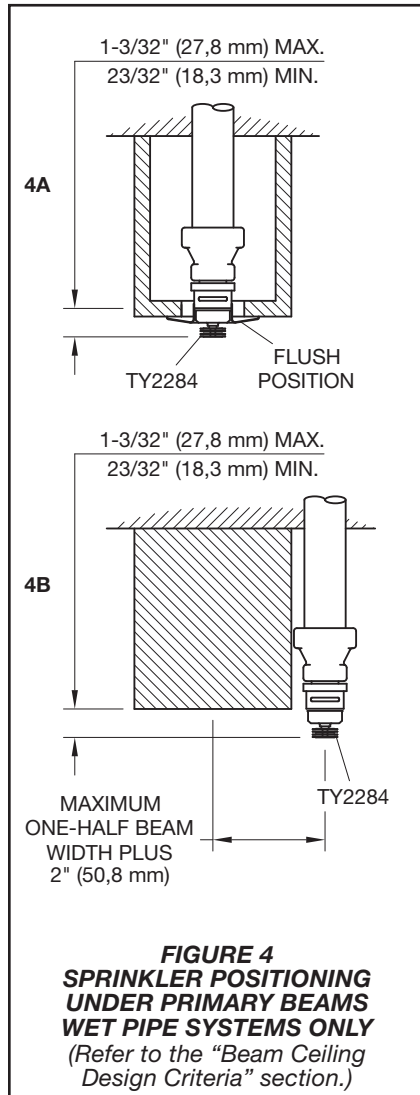

FIGURE 4
The basic concept of this protection scheme is to locate the sprinklers on the underside of the beams, refer to Figure 4, (not in the beam pockets); to identify the main beams that principally run in one direction as "primary beams"; and, to identify the beams that run principally perpendicular to the main beams, as may be present (or in some cases may be necessary for proper sprinkler protection), as "secondary beams".
- When properly installed, a nominal 3/32 inch (2,4 mm) air gap exists between the lip of the Cover and the ceiling, as shown in Figure 4. This air gap is necessary for proper sprinkler operation. The air gap allows heat flow from a fire to pass below and above the Cover, helping to assure appropriate release of the Cover in a fire situation. If repainting the ceiling after installation is required, exercise care to ensure that new paint does not seal off any of the air gap.